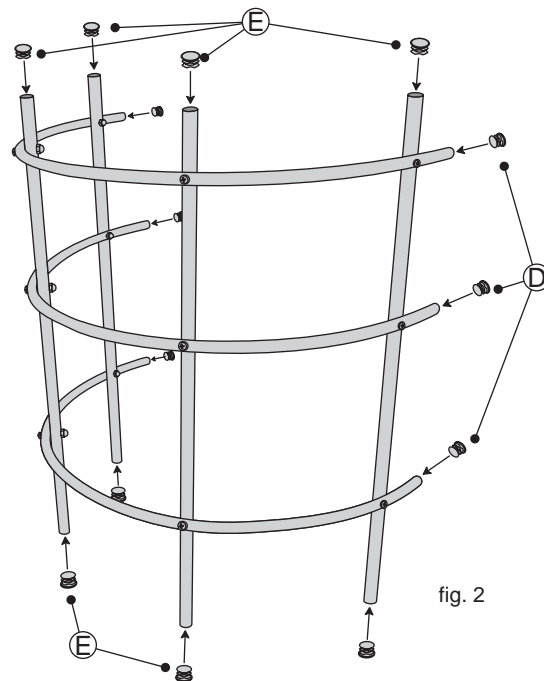

fig. 2
2. Press the Plastic Plugs **E** and Small Plastic Plugs **D** firmly into the ends of the Curved Tubes **A** and Tubes **B**. See fig. 2.